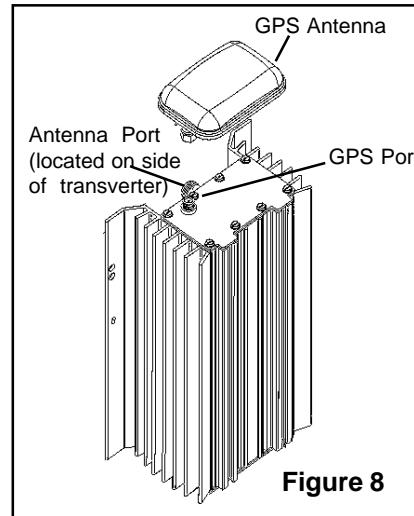

Figure 8
5. Connect the GPS Antenna to the GPS port on the Transverter. (See Figure 8)
6. Connect the 18T-2127 antenna output to the antenna port on the side of the Transverter. (See Figure 8)